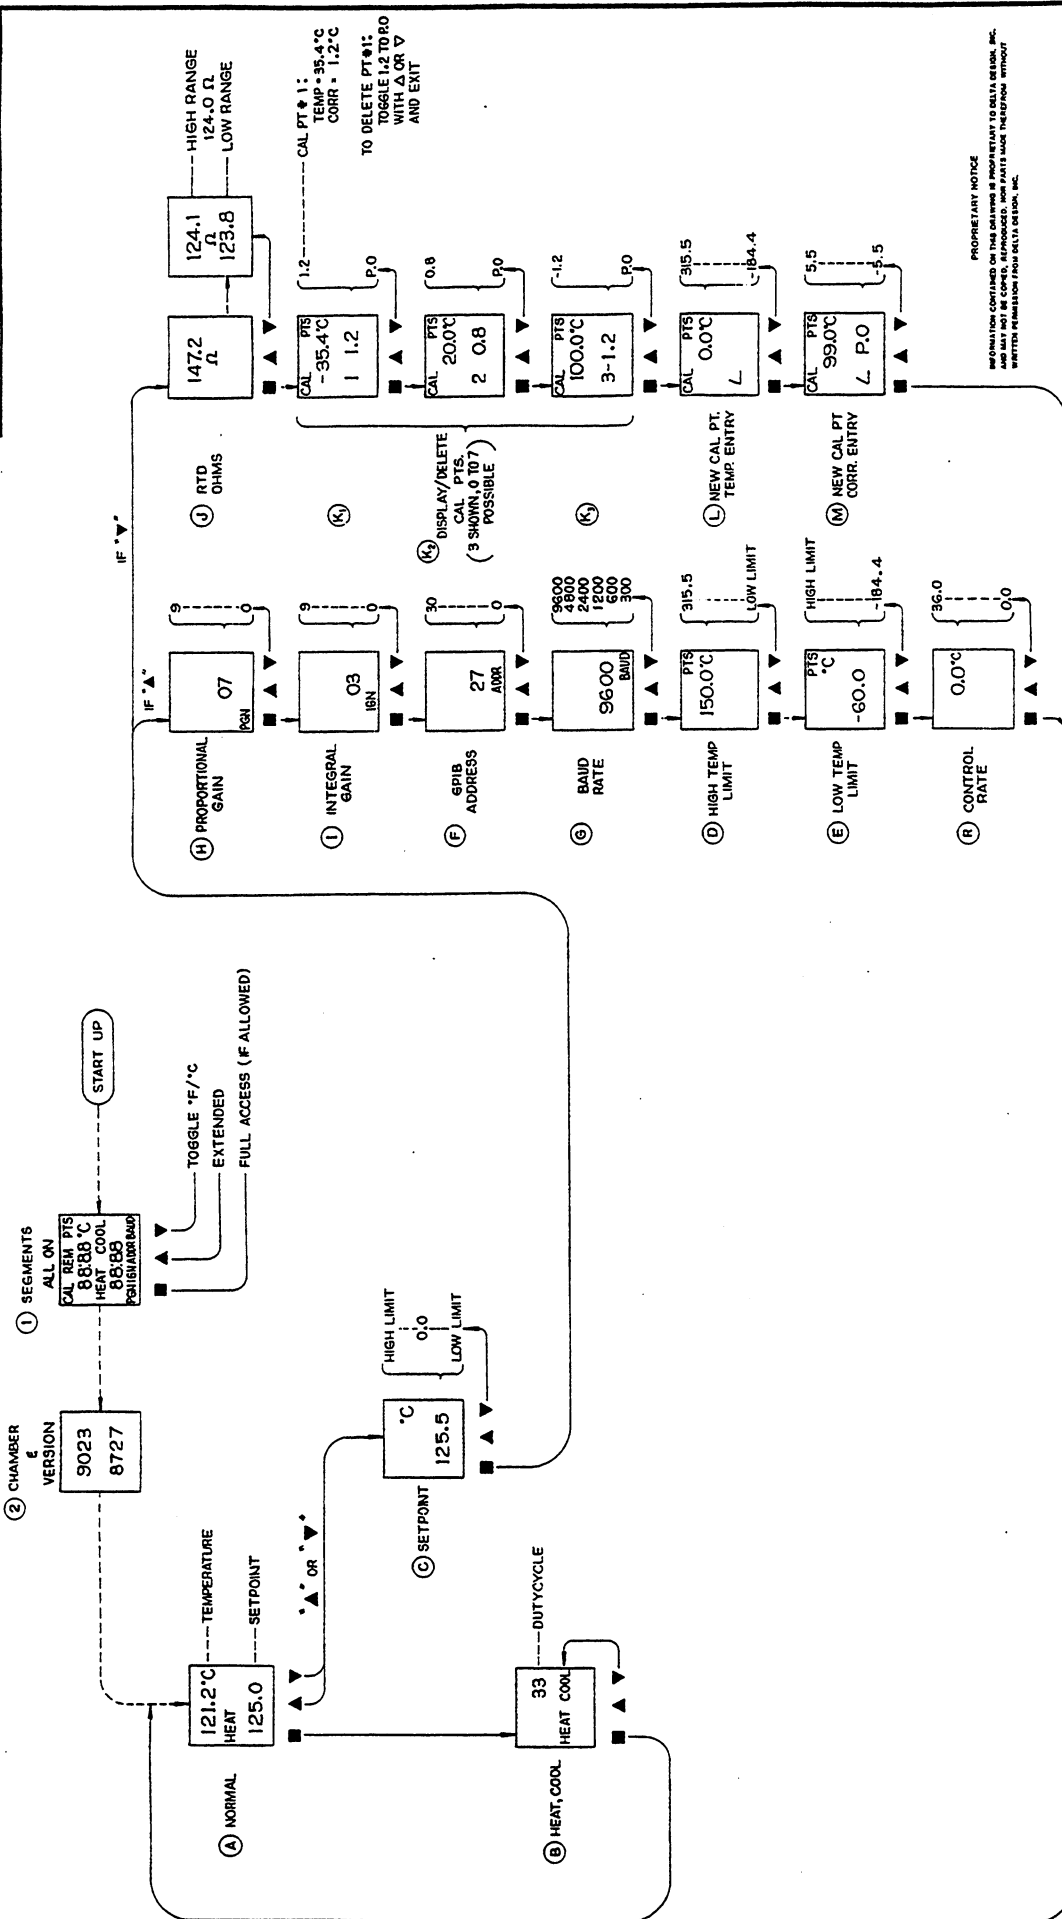

Figure 5-4. Full Access
5.5 FULL ACCESS MODE (Figure 5-4)